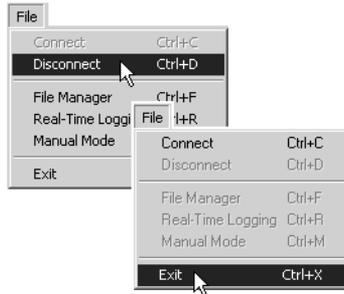

Figure 4-7. Click **Disconnect** then **Exit**
10. Continue with other operations. Or, click **File->Disconnect**, then **File->Exit** to quit PC-CDU (Figure 4-7).